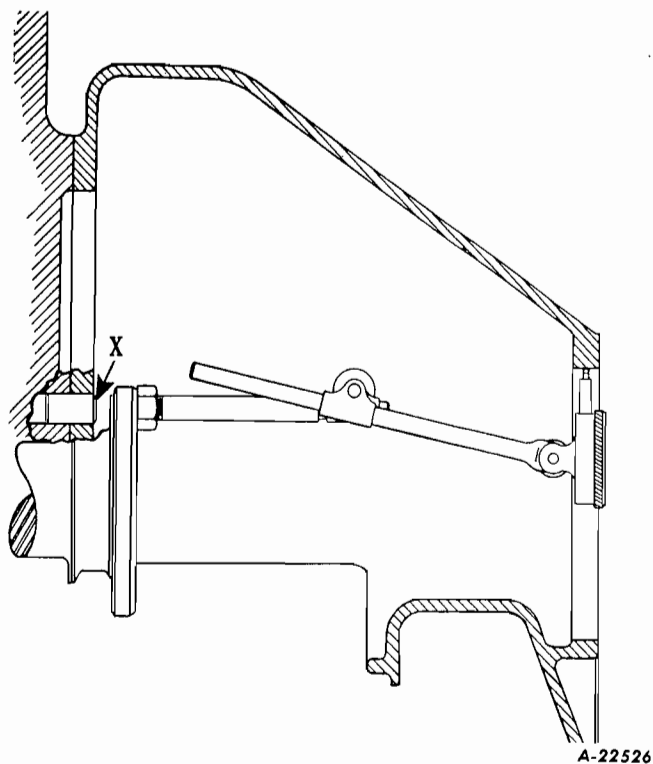

Fig. 39
6. **INSTALL FLYWHEEL HOUSING.** Place flywheel housing in position over two flywheel housing to cylinder block dowels and tap into place with soft hammer. Install six capscrews and lockwashers in flywheel housing. If either block or flywheel housing is replaced, the flywheel housing will have to be aligned with a dial indicator. When correctly aligned, run-out of bore should not exceed .005" (Fig. 39). NOTE: If possible align flywheel housing while engine is in overhaul stand and with engine in vertical position (flywheel housing up).